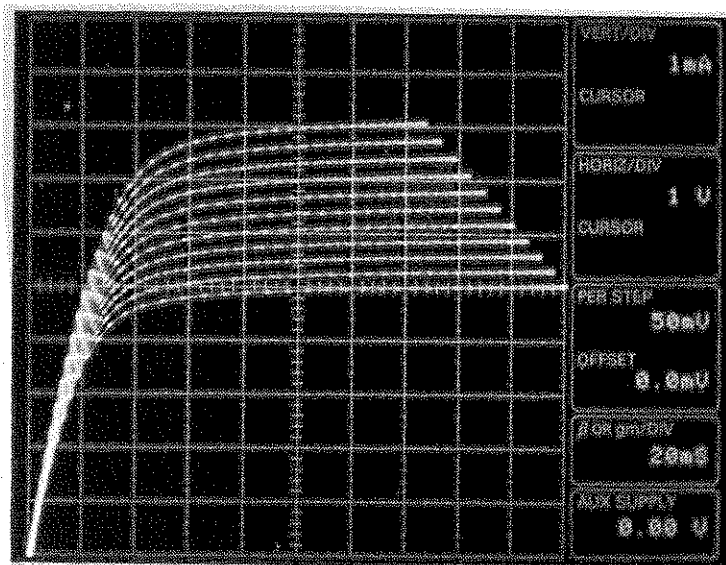

Figure 3-12. Display of FET common-source characteristic curves:  $I_D$  vs  $V_{DS}$  for 10 steps of gate voltage at 0.05 volt/step.
51. Set the LEFT-RIGHT-STANDBY control to RIGHT and turn the VARIABLE COLLECTOR SUPPLY control slowly clockwise. Note the display of drain current vs drain-source voltage with voltage steps of 0.1 V/step applied to the gate (see Figure 3-12). Since the steps applied to the gate are positive-going, the curves displayed represent enhancement mode operation of the FET. (Set number of steps to zero to display the curve obtained with zero volts applied to the gate, then set number of steps to 10.)